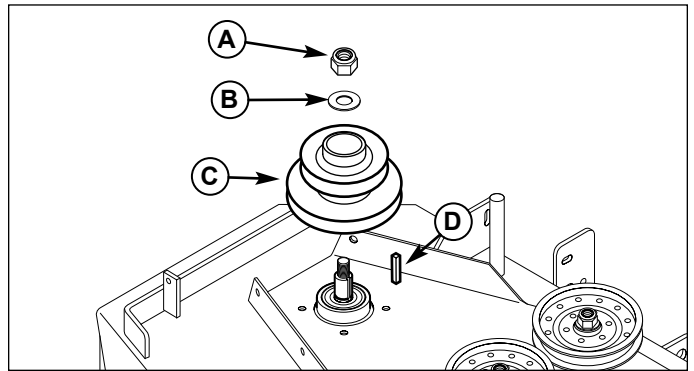

Figure 4. Install Spindle Pulley
1. Apply an anti-seize compound to the spindle shaft. Install the new, double spindle pulley (C, Figure 4) on the shaft with the smaller pulley facing up with the 5/8" nylon lock nut (A), 5/8" washer (B) and 1/4" key (D) and tighten to 85-95 ft./lbs. Use a block of wood to keep the blade from spinning while installing and tightening the 5/8" nut.